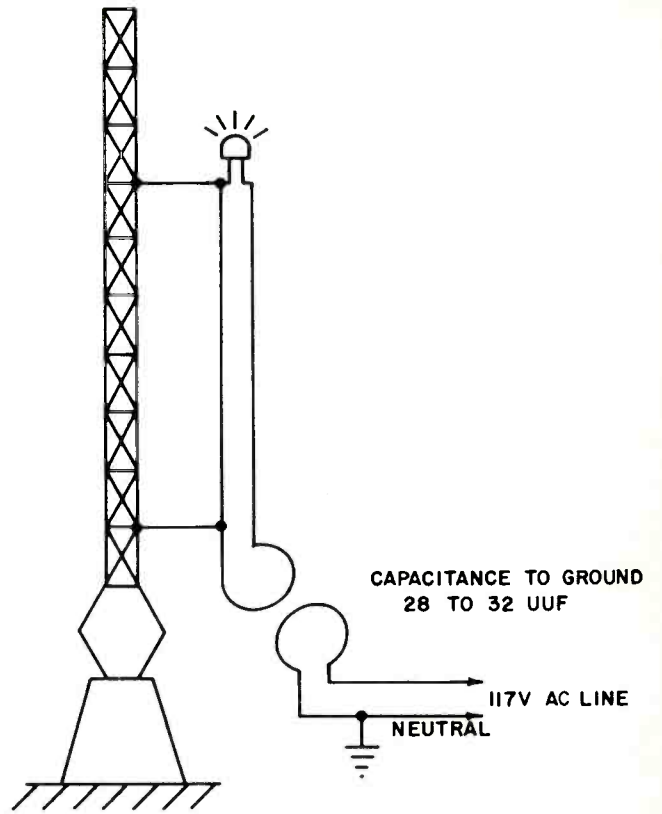

Figure 3—Transformer tower lighting isolation.
3. An entirely different means of tower lighting isolation is provided by the transformer isolation type or so-called "Austin" transformer. Transformer isolation is shown in Figure 3.